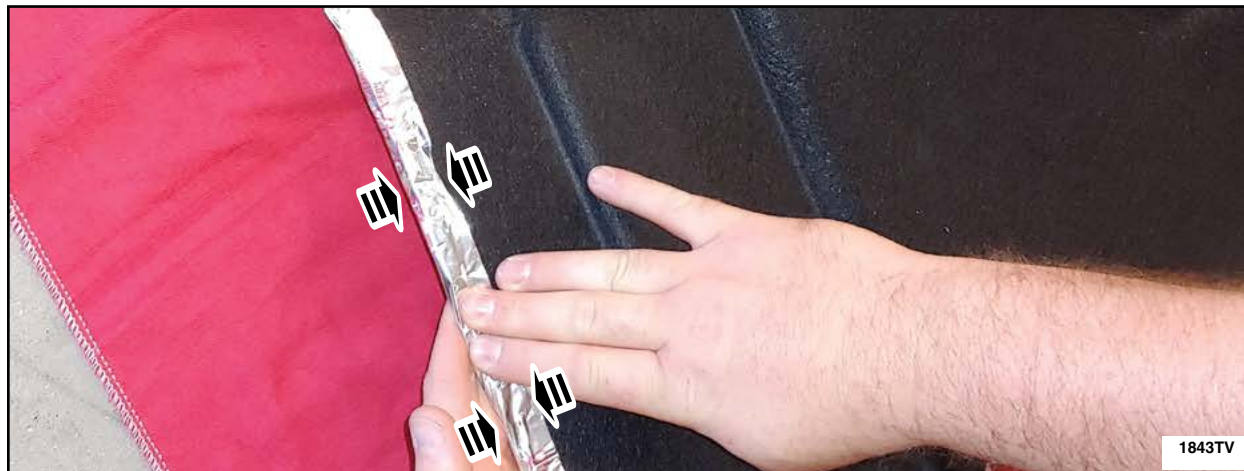

FIGURE 14
9. Using hand pressure, pinch / crimp both sides of the applied foil tape to ensure positive adhesion with no exposed insulation. See Figure 14.